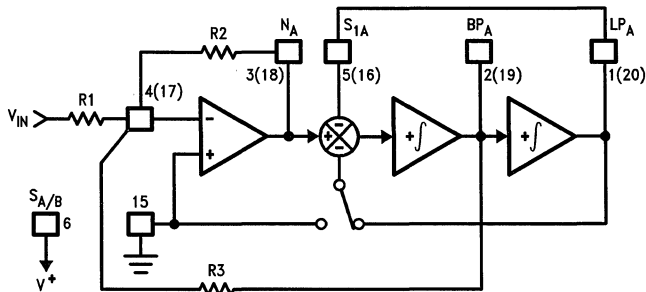

FIGURE 9. MODE 1b
- $f_{\text{notch}} = f_0$ (See Figure 9)